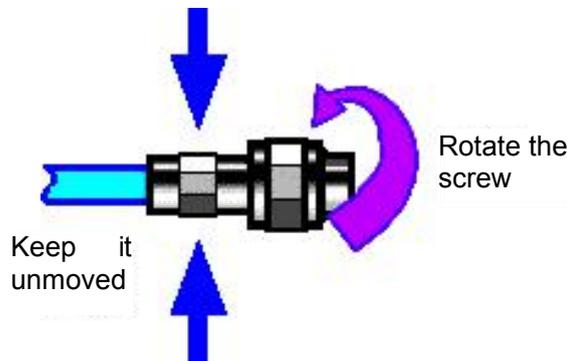

Fig.2.5 Connection
**Step 2. As shown in Fig.2.5, move both connectors straight together, so that they can be connected smoothly; rotate the threaded sleeve of connector (rather than the connector itself) until it is tightened; during connection, there can be no relative rotary motion both connectors;**